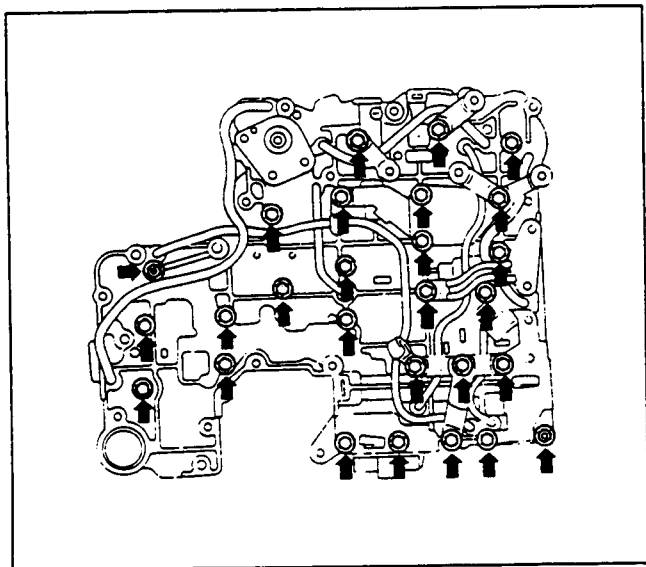

Figure 84. Upper and Lower Valve Body Removal
Upper and Lower Valve Body (Figures 84 and 85)
1. With the upper valve body facing down, loosen the bolts and nuts (figure 84), and remove the lower valve body, separator plate and valve body gaskets as a unit from the upper valve body.